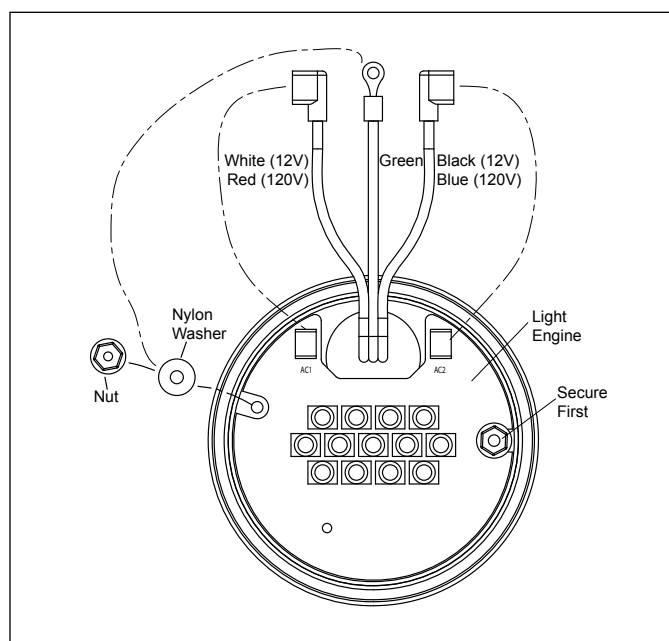

Figure 2. Small Light Engine (PCB) Replacement and Wiring
1. Remove two (2) nuts and two (2) washers.
4. Place new light engine into the fixture with the orientation shown in Figure 2.
5. Secure the light engine with one (1) nylon washer and one (1) nut. Torque to 12 in-lbs.